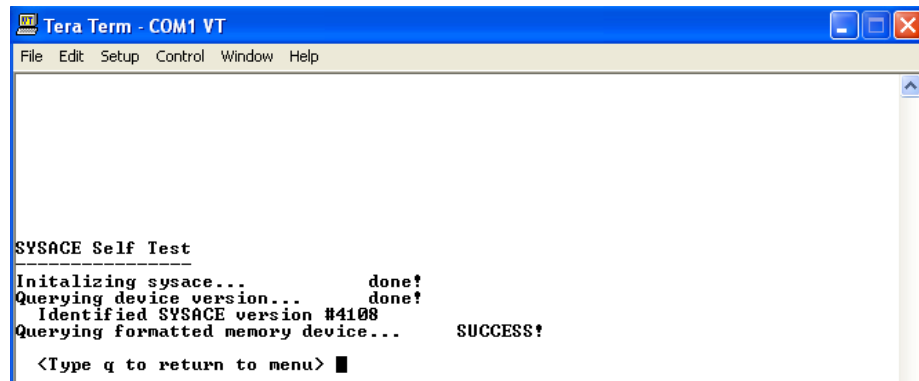

Figure D-19: System ACE Test Completion
1. After you selected "4" in the BIST Main Menu, the program checks if there is a Compact Flash or Microdrive in the System ACE socket. If it finds one, you will see the response shown in Figure D-19. Otherwise, it will just say "Querying formatted memory device... FAILURE!".